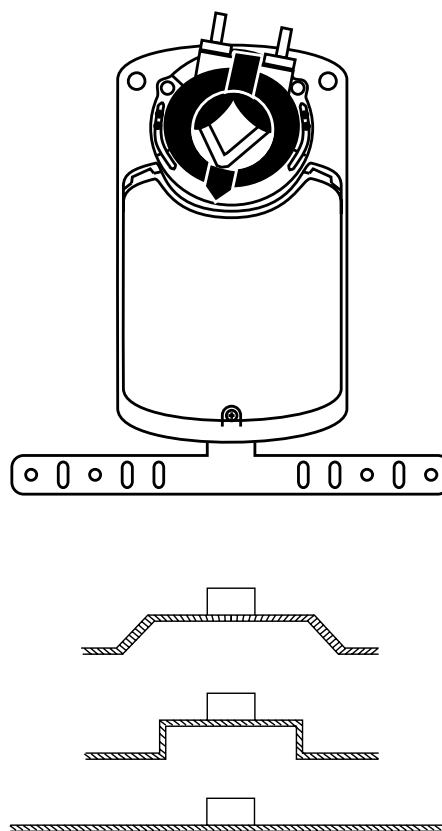

Figure 1
1. Bend or cut the anti-rotation bracket to fit the damper frame or duct as illustrated in Figure 1.